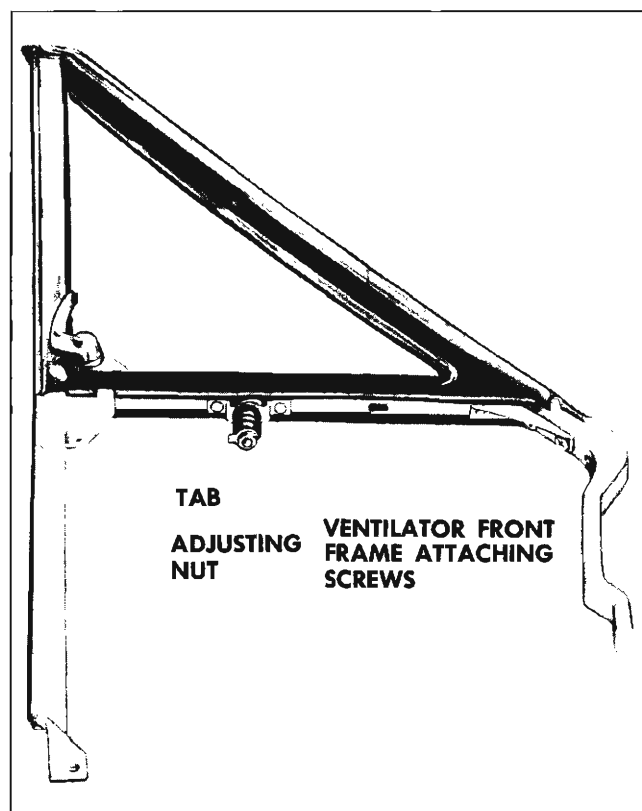

Fig. 12-24 Ventilator Assembly
2. The effort required to open or close the ventilator can be set by straightening retaining washer tab and tightening or loosening the adjusting nut. Tightening the adjusting nut will increase effort and loosening adjusting nut will decrease effort. When desired adjustment has been obtained, bend down washer tab to lock nut in position (Fig. 12-24).